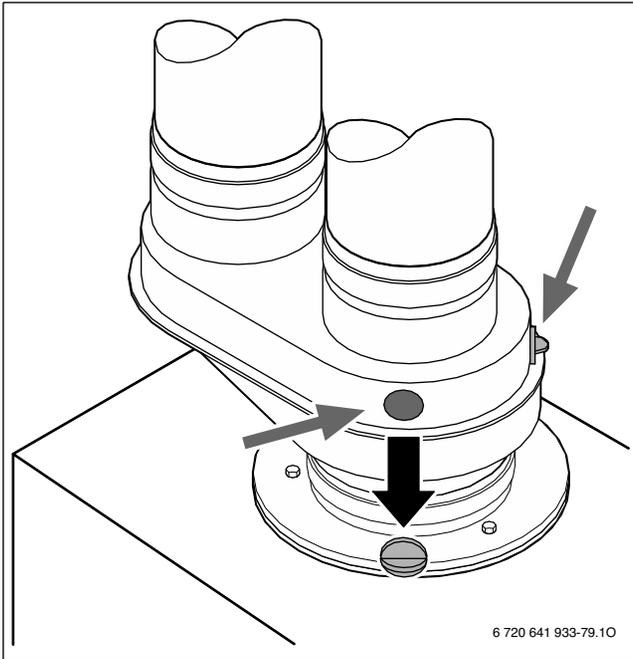

Fig. 77 Open one of the flue gas test ports
- ▶ Open one of the flue gas test ports (→ Fig. 77).